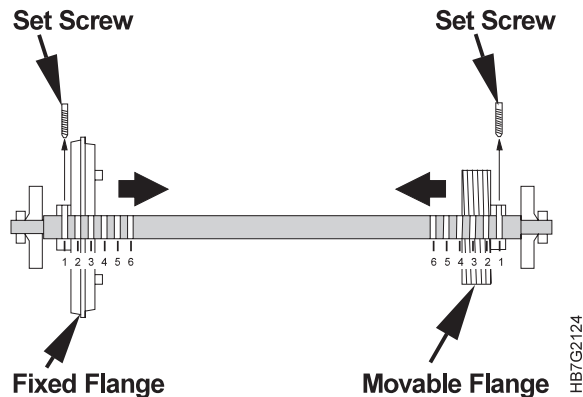

Figure 195. Paper Roll Axle
To place an axle, as shown in Figure 195, in a new paper roll, do the following:
If the width is different from the width of the roll used previously on this axle, remove the set screw that attaches each flange to the axle, as shown in Figure 195.
- 3 Remount the set screws, as shown in Figure 195.